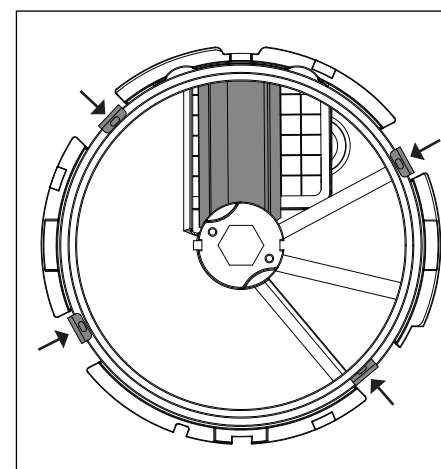

Figure 5
- 3 Place DICER TOP DISC with DICER BLADE facing up in the DICER BOTTOM DISC then push DICER DISC BLADE LOCKS in ensuring that all four LOCKS are holding the DICER TOP DISC in the DICER BOTTOM DISC. See Figure 5.